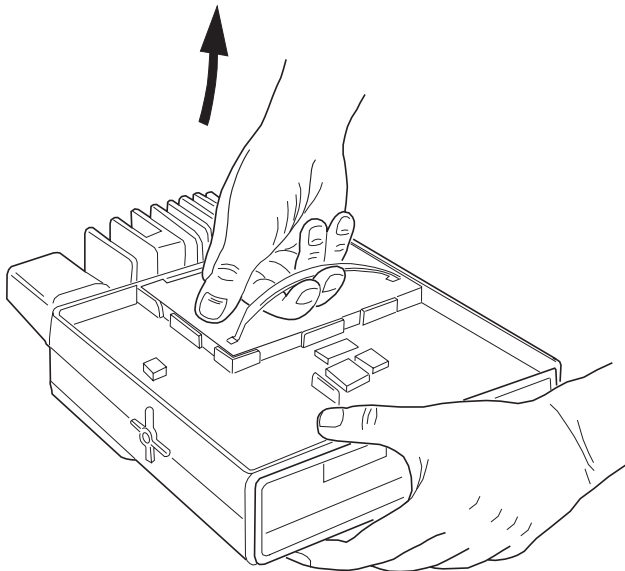

Figure 6-4. Shield Removal
- 2A. Hold the shield handle with your index and middle fingers while pressing your thumb downward on the shield. Keep all fingers curled upward as shown in Figure 6-4.
- 2B. Keeping the other hand away from the PA shield, place your thumb on top of the front of the radio while placing your fingers underneath the chassis. Refer to Figure 6-4. Make sure this hand is away from the PA shield.